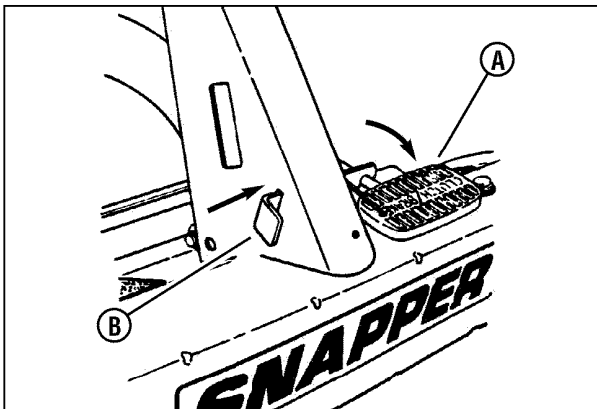

Figure 39: Setting the park brake
4. Depress the clutch/brake pedal (**A, Figure 39**) all the way down. Move and hold the park brake lever (**B**) in the "ON" position and release the clutch/brake pedal to set the park brake.